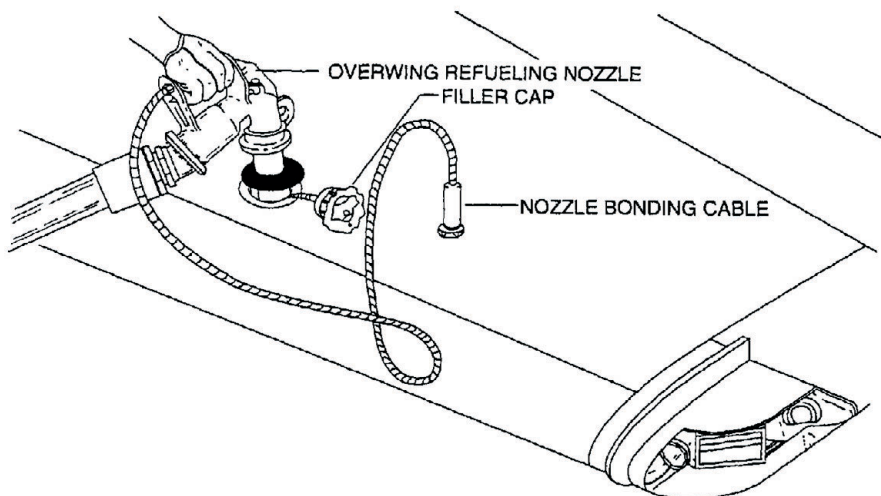

Figure 5-18.—Electrical bonding of overwing nozzle to aircraft.
9. Bond the overwing nozzle to the aircraft (as shown in figure 5-18) and then remove the filler cap from the aircraft. Always bond nozzle to aircraft before the fill cap is removed. This connection will remain in place until the entire fueling operation is complete. Failure to bond the nozzle and maintain contact can result in a dangerous static spark inside the fuel tank (nozzle operator).